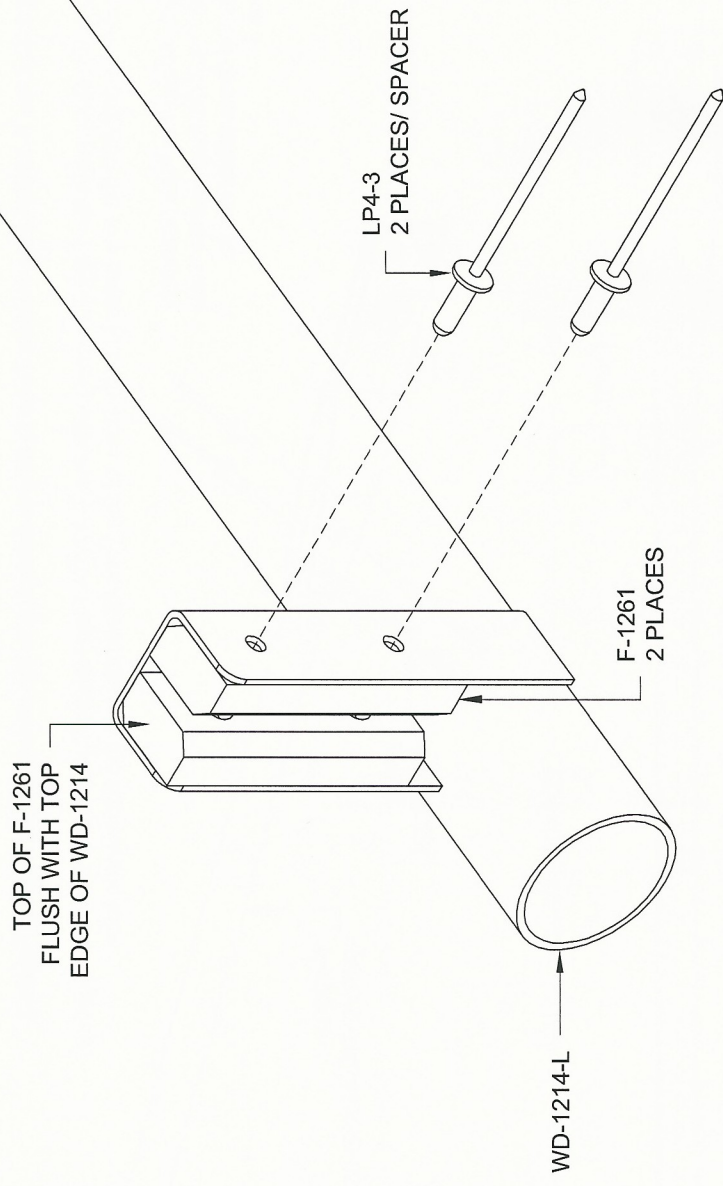

FIGURE 4: ATTACHING THE SPACERS
Step 7: Position the F-1261 Spacers in the WD-1214-L & -R Flaperon Torque Tubes as shown in Figure 4, then match-drill #30 the holes of the flaperon torque tube into the spacers.
Step 9: Scuff the mating surfaces, then epoxy the F-1261 Spacers to the F-1214-L & -R Flaperon Torque Tubes. Do not use too much epoxy, a 1/8 inch gap must be maintained between the spacers (use a scrap piece of 1/8 aluminum or something similar). Before the epoxy sets, install the rivets called out in Figure 4.